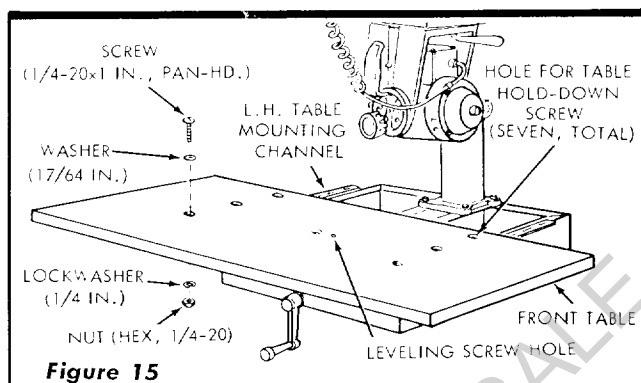

Figure 15
- Place the front table board on the table mounting channels. (See figure 15.)